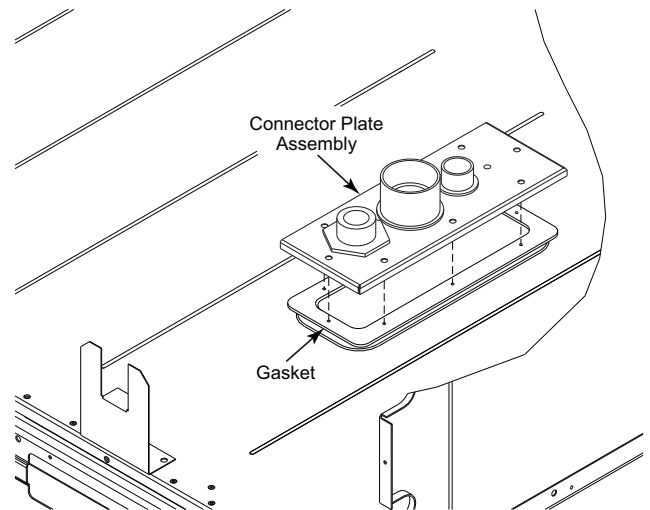

Fig. 17 — Completing Installation of Thru-the-Base Option
4. Place the gasket over the embossed area in the basepan, aligning the holes in the gasket to the holes in the basepan. See Fig. 17.